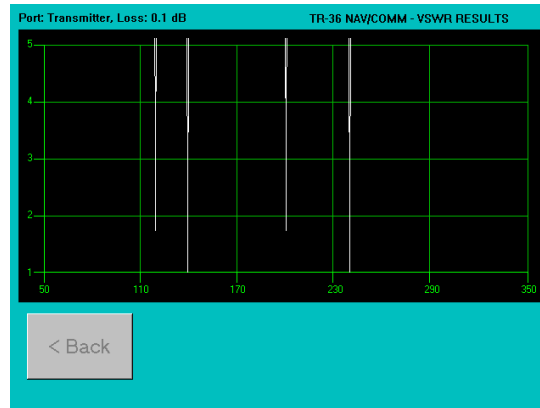

Figure 2-65. Graphic VSWR Display
11. Test Set will display a Pass/Fail indication; Select **Next >** to view a detailed analysis of VSWR test performed and a graphical Display of the results (Figure 2-65). The Graph will be based on the initial settings set up in step #3.